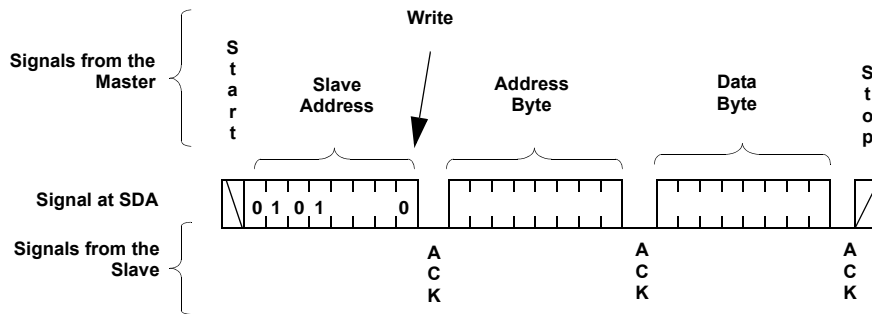

FIGURE 7. BYTE WRITE SEQUENCE
2. Access the desired DR or WCR using a new write or read command (see Figure 7 for write and Figure 9 for read.)
For any Byte Write operation, the X9252 requires the Slave Address byte, an Address Byte, and a Data Byte (See Figure 7). After each of them, the X9252 responds with an ACK. The master then terminates the transfer by generating a STOP condition. At this time, if the write operation is to a volatile register (WCR, or SR), the X9252 is ready for the next read or write operation. If the write operation is to a nonvolatile register (DR), and the \overline{WP} pin is high, the X9252 begins the internal write cycle to the nonvolatile memory. During the internal nonvolatile write cycle, the X9252 does